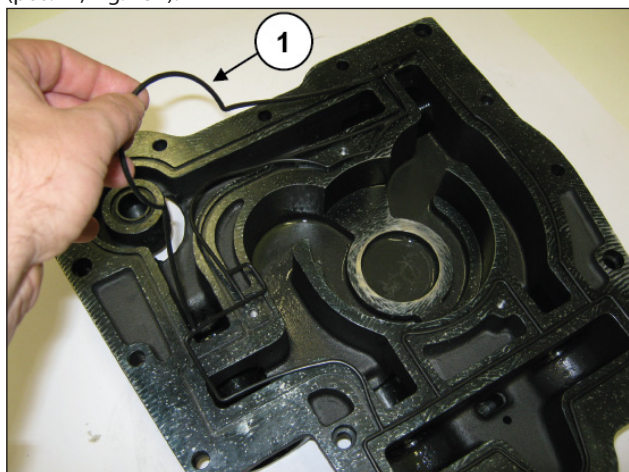

Fig. 151
Insert the shaped O-ring in its seat on the lube pump body (pos. ①, Fig. 151).